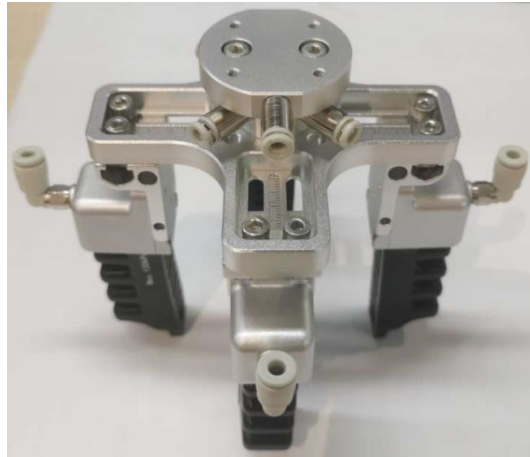

Figure 2.4 Install connection block
**Step 4** Install the connection block to the top of Slide mounting plate-4S, as shown in Figure 2.4.